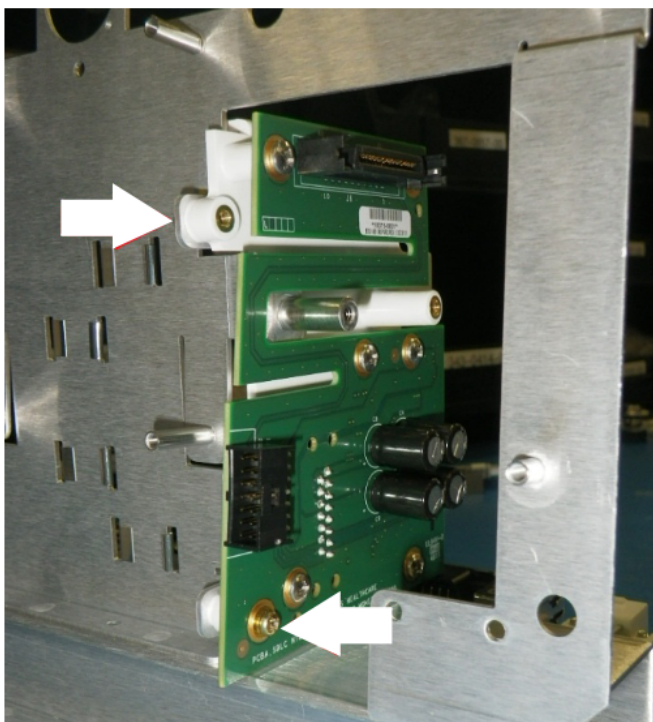

Figure 4-13 SDLC Interface
- 4** Remove the two screws shown in Figure 4-13 on page 4-19.
- 5** Remove the two screws from the SDLC Interconnect as shown in Figure 4-13.